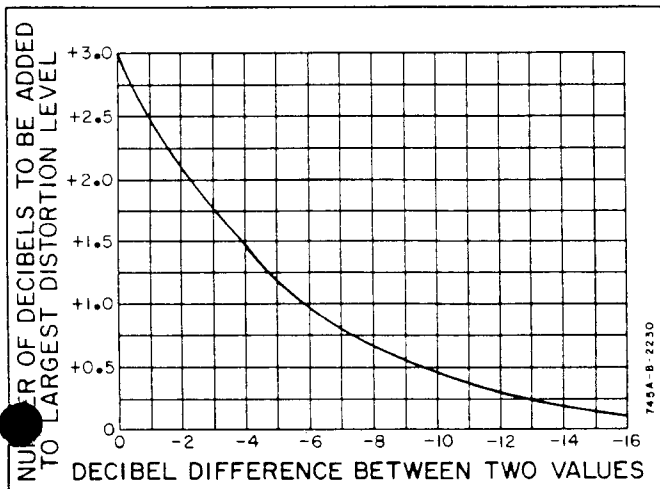

Figure 4-9. Logarithmic Addition of Harmonic Components.
m. Calculate the Total Harmonic Distortion using the graph shown in Figure 4-9. As an example: If the amplitude of the second harmonic is -110 dB and the third harmonic amplitude is -114 dB the dB difference between the two is -4 dB. Locate this number on the horizontal axis of the graph. The -4 line intersects the curve at approximately the $+1.5$ level on the vertical axis. The total harmonic distortion is therefore the amplitude of the largest harmonic (2nd harmonic) plus the number determined on the vertical axis (-110 dB + 1.5 dB = -108.5 dB).
n. Calculate the Induced Harmonic Distortion using the graph shown in Figure 4-9.